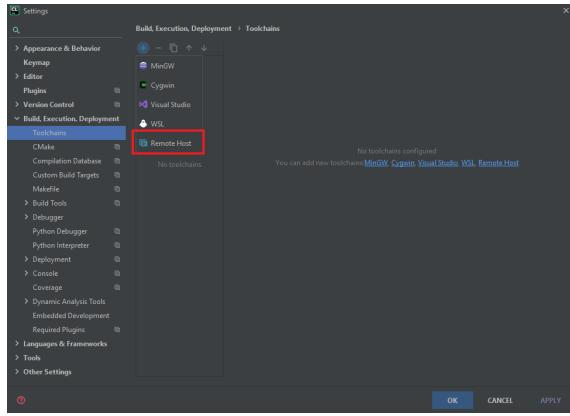

Figure 4.10: CLion Remote Toolchain Option
3. Add a new toolchain using the plus button at the top left and select "Remote Host" (Fig. 4.10).